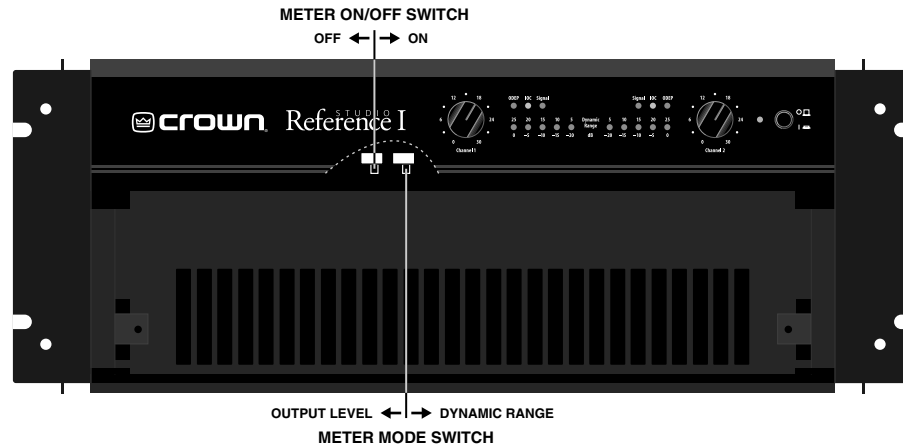

Fig. 4.4 Meter Switches
6. Locate the meter switches as shown in Figure 4.4. Set the switches as desired. The left switch is used to turn the meters on and off, and the right switch is used to change display modes.